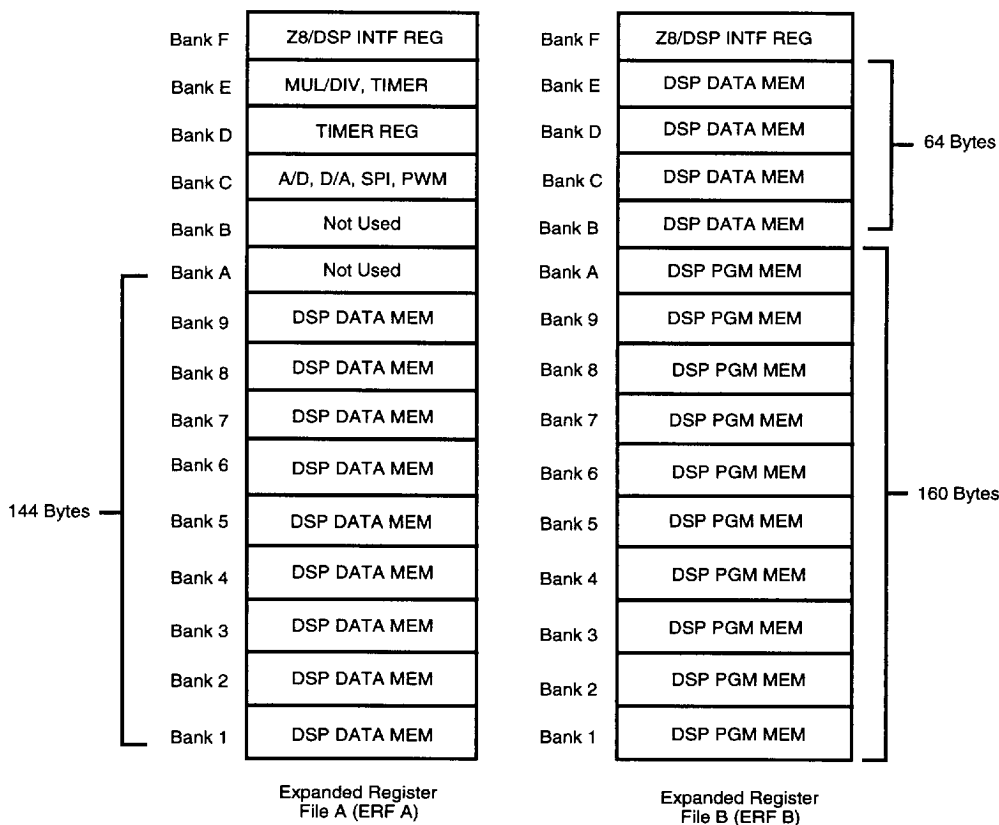

Figure 13. DSP Program and Data Memory
- 1. DSP Program Memory.** The size of this memory is 512 bytes. This memory space is mapped into ERF-B, C, and D of the Z8. It occupies bank 1 through bank A in ERF-B, bank 1 through bank E in ERF-C, and bank 1 through bank 8 in ERF-D. (Figures 13 and 14).